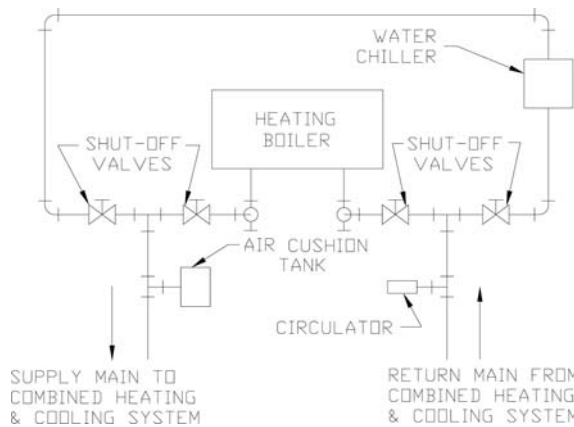

Figure 5: Recommended Piping for Combination Heating & Cooling (Refrigeration) Systems
D. If boiler is used in connection with refrigeration systems, boiler must be installed with chilled medium piped in parallel with the heating boiler using appropriate valves to prevent chilled medium from entering boiler, see Figure 5. Also consult I=B=R Installation and Piping Guides.